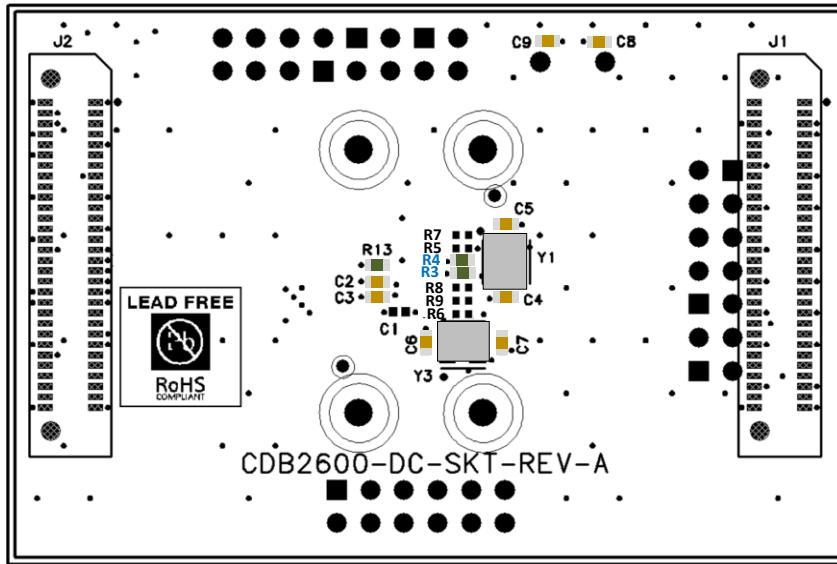

Figure 24 Daughter Card with Crystal Y1 Reference Clock Option (R3 and R4)
- The 12 MHz crystal Y1 on the daughter card is the default REF_CLK source. The part number of the crystal is NX3225SA-12.000M-STD-CRS-2 (SMD/SMT crystal); further information can be found in the crystal datasheet. The daughter card configuration (default) is R3, R4 populated ($0\ \Omega$); R5, R6, R7, R8, R9 non-populated. The configuration is illustrated in Figure 24.